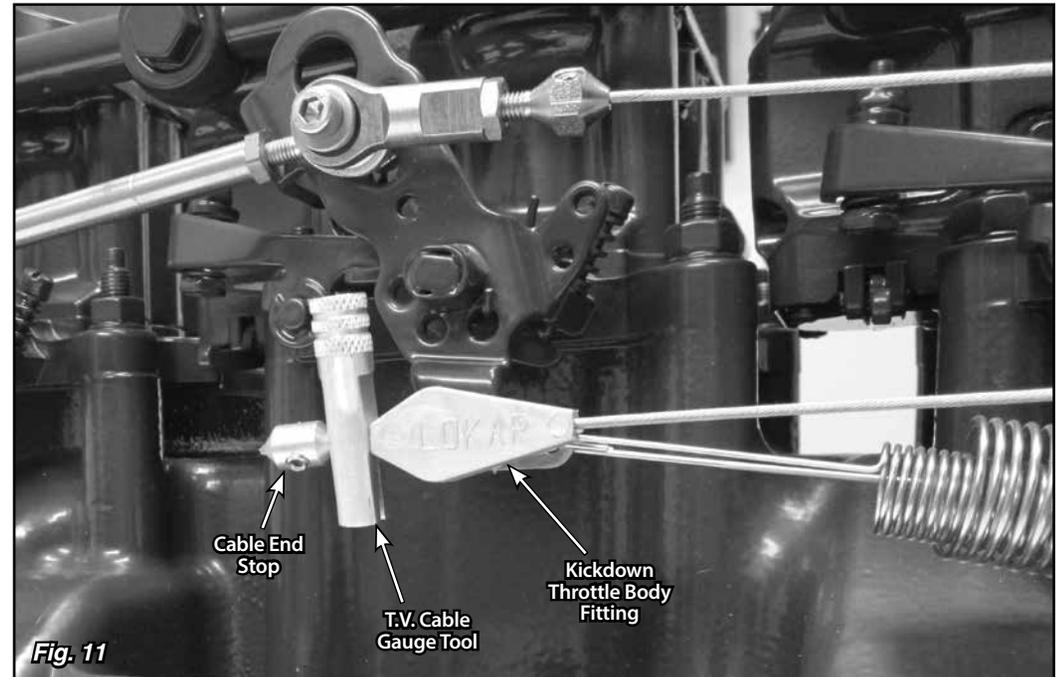

Fig. 11
- Step 11:** Pull forward on the cable end stop at the engine end of the T.V. cable in order to create some clearance between the cable end stop and the kickdown throttle body fitting. Insert the slotted end of the supplied T.V. cable gauge tool between the cable end stop and the kickdown throttle body fitting so that the T.V. cable inner wire is inside the slot on the tool. **Fig. 11**